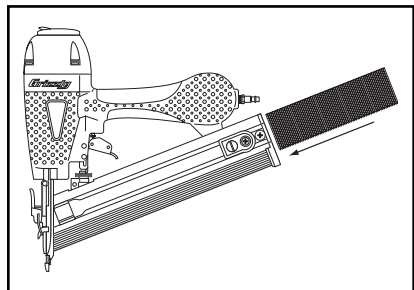

Figure 3. Loading finish nails into nailer.
3. Load a nail stick in the T-slot at the top of the magazine as shown in **Figure 3**.